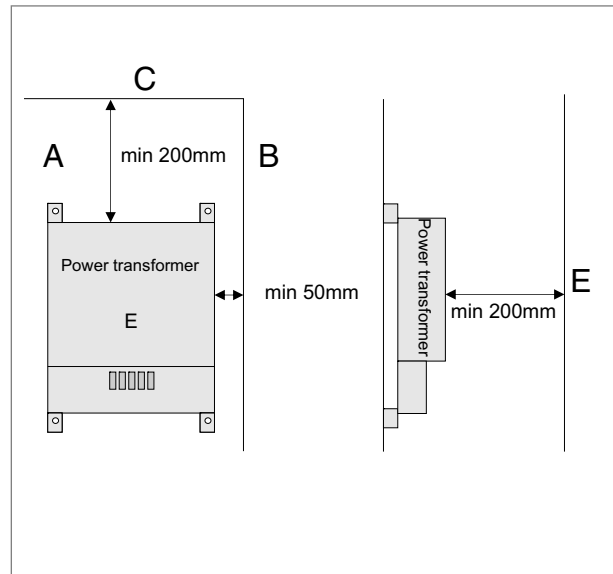

Fig. 2
A defective fuse usually means a short-circuit or an overload of the 12 V output. This is indicated by a red LED lighting next to the fuse (see Fig. 2) if a consumer is connected.
- Install the AC/DC converter at a place which is well ventilated and protected against moisture. In order to achieve optimum heat removal, the device must be mounted vertically (see Fig. 2).
The optimum installation of the AC/DC converter is in the vertical position (Fig. 2). The maximum permitted ambient temperature is 50 °C.